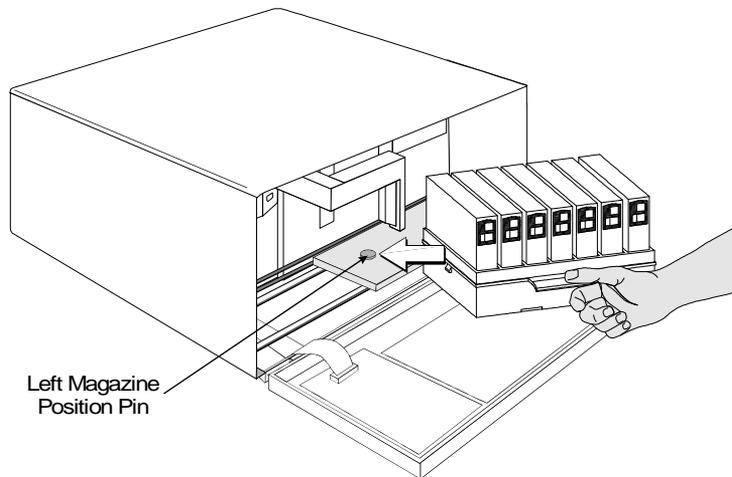

Figure 11. Placing the Magazine onto the VLS
- ❑ Holding the magazine by the handle, and at a 45° angle to the carriage, slip the magazine onto the left side of the carriage, over the left magazine position pin (see Figure 11).